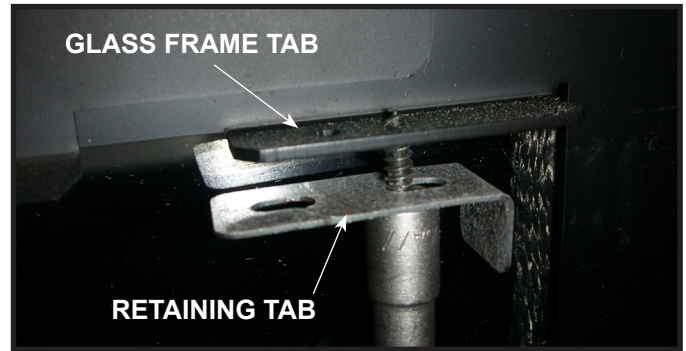
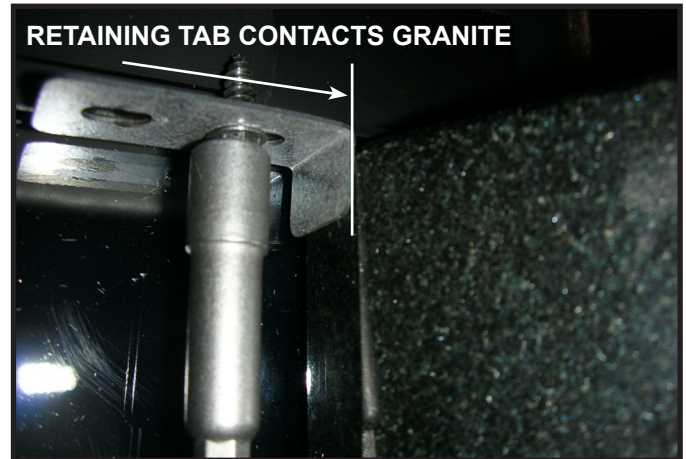

Figure 9. Attaching Retaining Tab to Glass Frame Tab.
Figure 10. Placing Outer Corner Granite Trim Piece.
- Install outer corner granite trim pieces. Slowly slide into position as shown in picture. Use securing tabs to hold in place. Tabs attach at the top using sheet metal screws and pilot holes located above the granite. See Figure 9 and Figure 10.